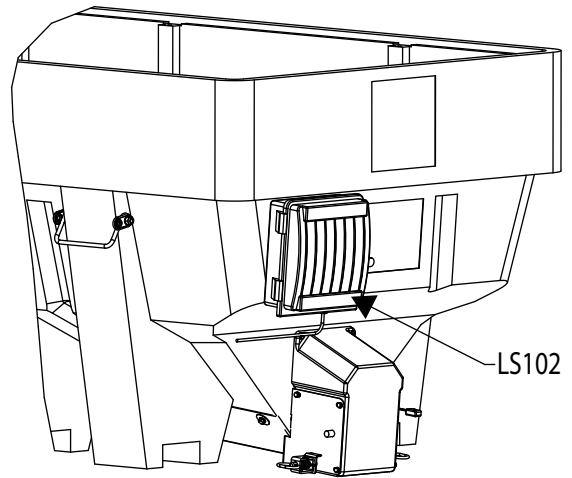

Fig. 4
4. Position and attach enclosure LS102 as shown in Fig.4.